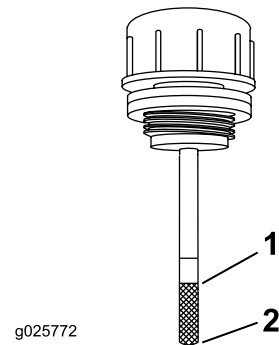

Figure 60
6. Clean the area around the dipstick of the hydraulic-system reservoir (Figure 60).
7. Remove the dipstick from the hydraulic reservoir (Figure 60).
9. Remove the dipstick and look at the end (Figure 60). If the oil level is at the add mark, slowly pour only enough oil into the hydraulic reservoir to raise the level to the full line.